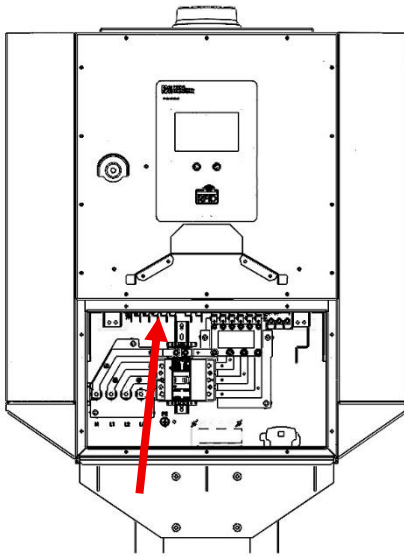

Figure 5: Locate HX's connected wires by locating +48V connector inside top of charger's opened lower-front panel
- a. At the top of the opened lower-front panel (Figure 5), locate the wires connected to the **+48V** connector.